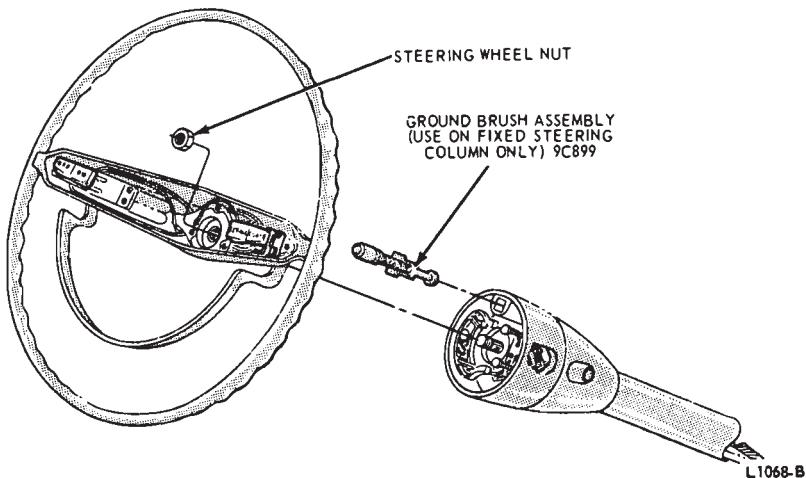

FIG. 4.—Steering Wheel Installation—Ford, Mercury and Meteor
the steering shaft (Refer to Shop Manual, Part 13-02). Use care not to lose the brush assembly (Fig. 4 or 5) on vehicles with a fixed steering column. This brush is used only with speed control.
- Snap the brush assembly out of the turn signal switch (Fig. 4 or 5).